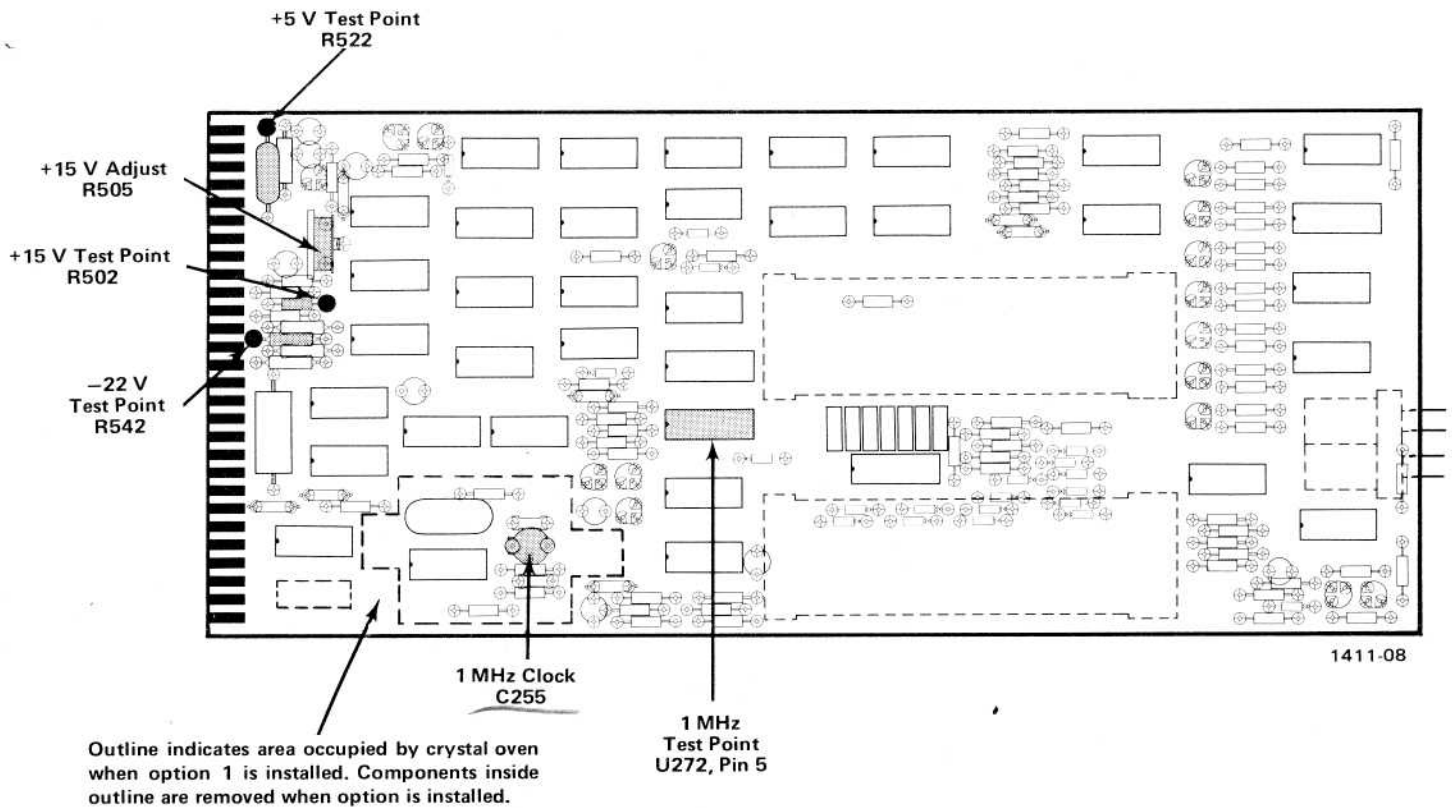

Fig. 3-1. Location of power supply test points and adjustment.
a. Connect the DM 501 LO test lead to the DC 503 chassis ground (function of C502 and R506). Connect the DM 501 HI test lead to the DC 503 +15 V test point (the junction of R502, C502, and R504, see Fig. 3-1).
a. Connect a 10X probe from the vertical input of the test oscilloscope to pin 5 of U272 in the DC 503 (see Figs. 3-1 and 3-3).